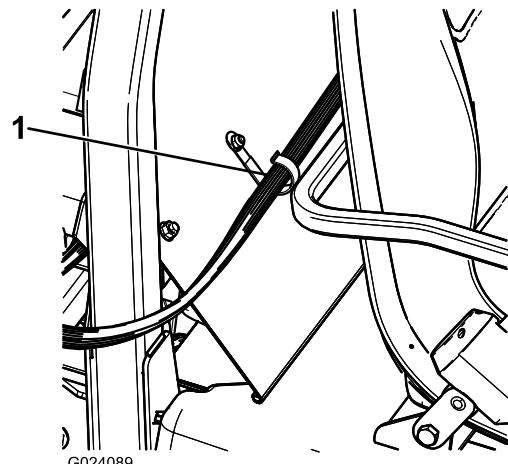

Figure 17
5. Install a J-clip behind the passenger seat using a bolt (1/4 x 1/2 inch) and a nut (1/4 inch) (Figure 17).